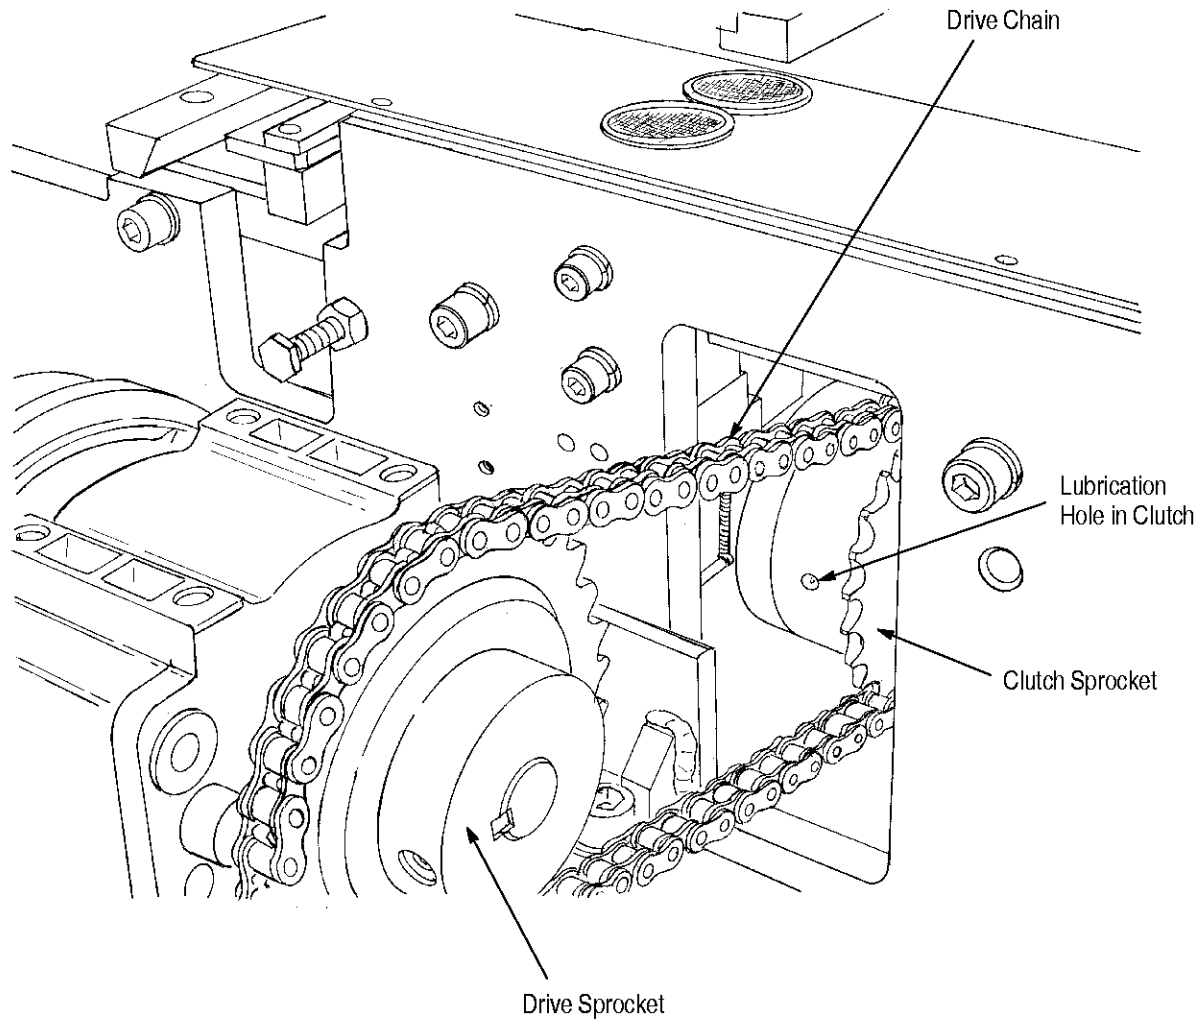

Figure 20
Clutch not lubricated.	Lubricate clutch. Refer to Figure 20.
3. Lubricate clutch with Santotrac† 50 (see Figure 20). Santotrac 50 can be purchased from:
- Added Figure 20 in Revised Section 7